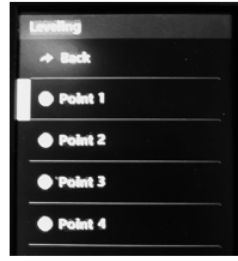

Fig 2
Step 3: Do "Prepare>> Bed leveling>> Point 1" on control panel(Fig 2), the nozzle will go to the corners of the bed, loosen the hand nuts under the hotbed (Fig 3) and let the nozzle almost touch the hotbed (Fig 4). Continue to do "Point 2/3/4" until all of the 4 corners has been leveled.